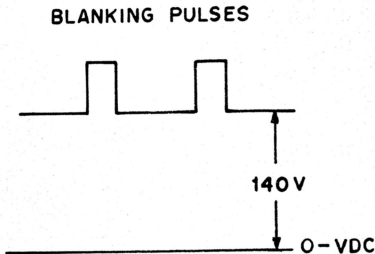

FIGURE 10
- 5.7 Adjust the black level control (VR201) to obtain the waveform shown in Fig. 10 or a +150 volt DC reading on the multimeter or the VOM.
- 5.13 With the oscilloscope, multimeter, or VOM connected to the collector of the lead color video output transistor (See Fig. 3), adjust the black level control to obtain the waveform in Fig. 10 or a +150 volt DC reading on the multimeter or VOM.